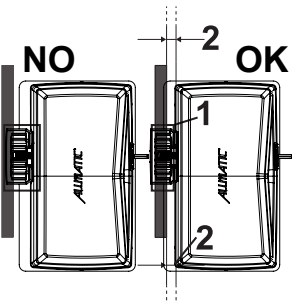

Fig.8
To fix the motor to the counterplate, insert and screw the 4 nuts (Fig. 5). Position the motor in parallel with the gate and with the gear under the rack as shown in Fig. 8.
**1** WARNING! Position the motor with the pinion under the rack as shown in figure 8